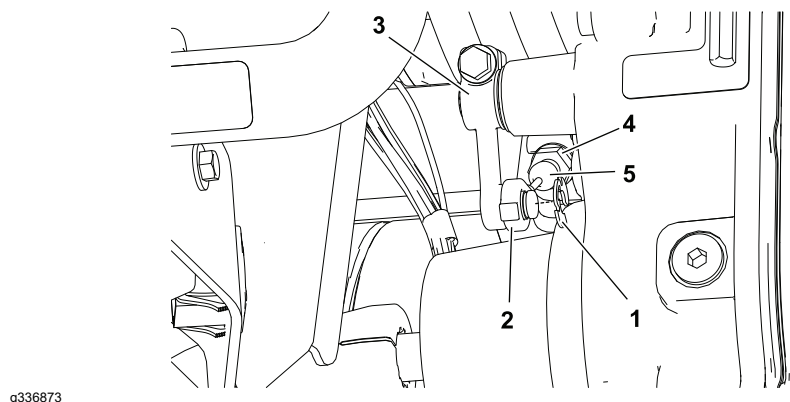

Figure 79
3. Remove the brake cable (item 5 in Figure 79) from the brake lever shaft on the transmission gear box assembly as follows:
- A. Loosen the front cable jam nut (4) that secures the brake cable to the casting slot on the transmission gear box assembly. Remove the brake cable from the slot.
- B. Remove the retaining ring (1) that secures the cable eyelet (2) to the brake lever (3) on the transmission gear box assembly.
- C. Remove the brake cable eyelet (2) from the brake lever (3).